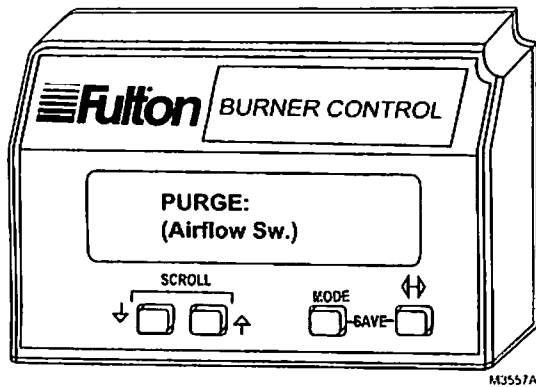

Fig. 3. Lockout message state 3.
3. State 3, see Fig. 3. Display of the third state message lasts three seconds. It is a replica of the burner status as it existed at the time of the lockout. The second line is blank if the burner status at the time of the lockout did not include a pre-emptive message (in parentheses) for the second line.